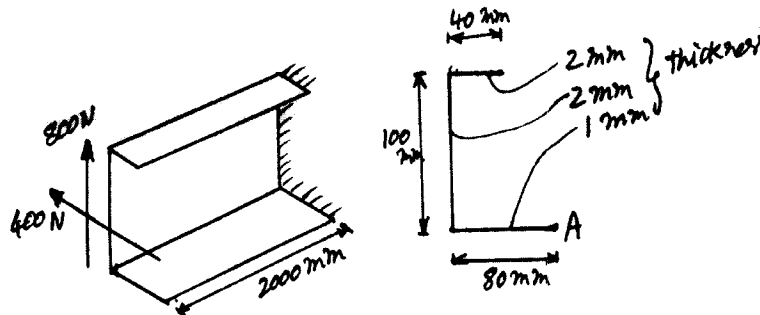

Fig Q2(b)
- b. A thin walled, Cantilever beam of unsymmetrical cross section supports shear loads at its free end as shown in Fig Q2(b). Calculate the value of direct stress at the extremity of the lower flange (point 'A') at a section halfway along the beam if the position of shear loads is such that no twisting of the beam occurs.